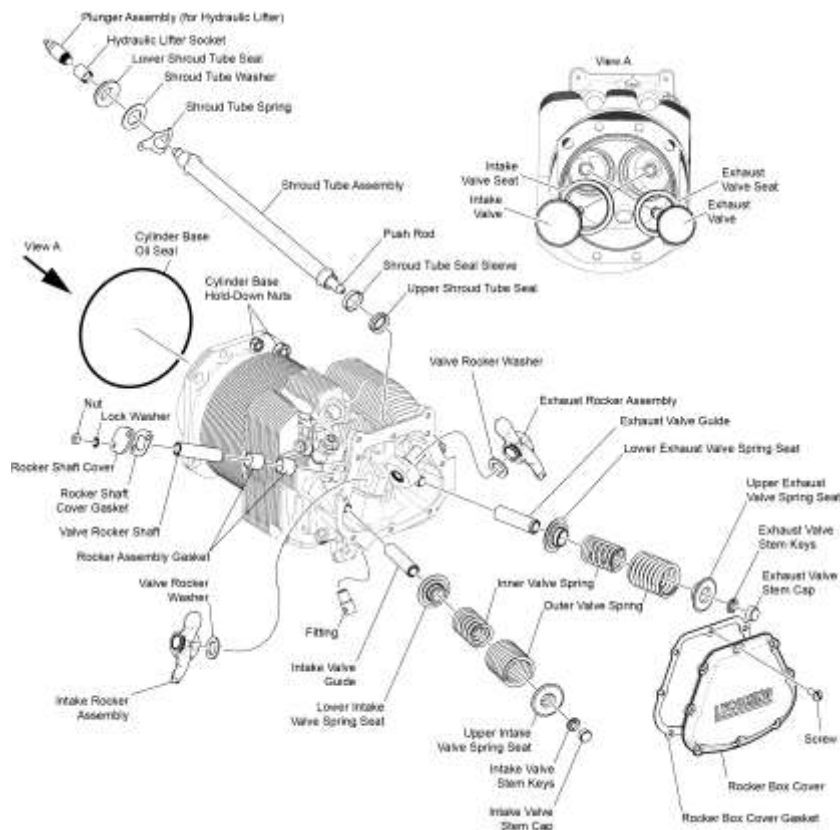

Figure 18
F. Remove the screws from the rocker box cover (Figure 18).
- G. Remove the rocker box cover (Figure 18) and gasket. Discard the gasket.
- K. Push the valve rocker shafts (Figure 18) outward and remove the rocker assemblies and bushings.
- R. Remove the cylinder base hold-down nuts (Figure 18).
- U. Remove the valve rocker shaft (Figure 18) from the engine cylinder
Look for wear or broken parts in the area of the valve, springs, and spring seats. Corrective Action: Replace any broken or worn parts. (Figure 18).	Cylinder 1